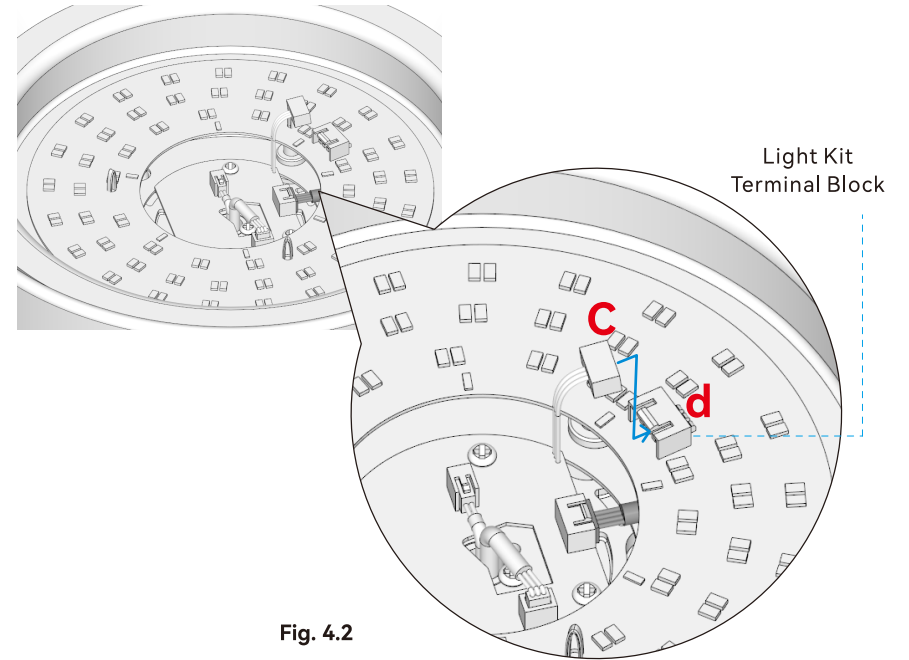

Fig. 4.2
4.5 Insert the wire plug (c) into the light kit terminal block (d) on the light kit as shown in Fig. 4.2.